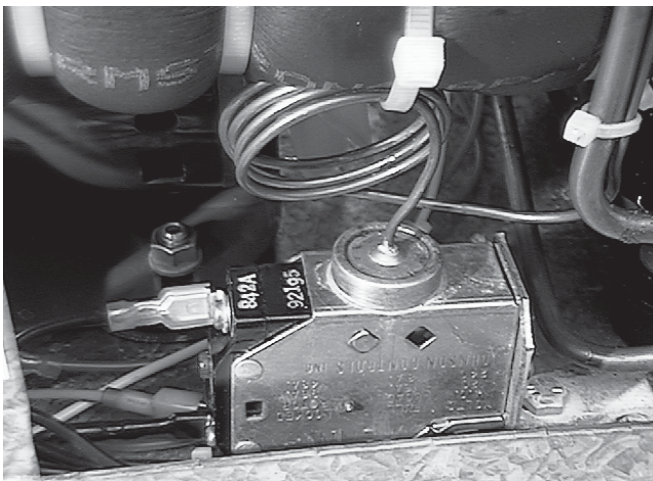

Figure 28. Pressure Switch
5. Remove the two electrical wires from the switch. Figure 28.